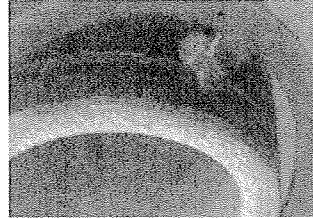

Figure 12: Safety Ring
- Have the second person install the retaining ring washer, then install the safety washer with the notch facing into the hole, and finally snap the two retaining rings into the groove. Refer to Figure 12 and 13.